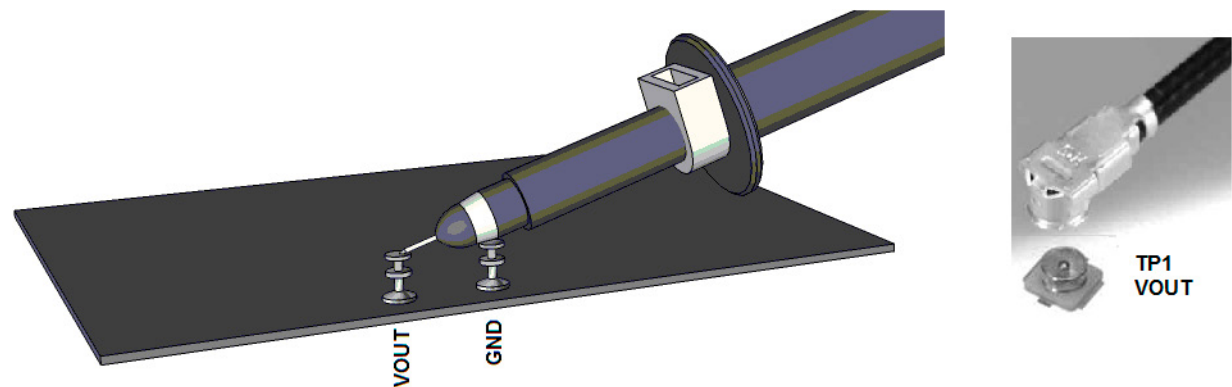

Figure 2. Technique for Measuring Output Ripple and Step Response
4. Connect an oscilloscope voltage probe as shown in Figure 2 in parallel with VM2. Set Channel to AC coupled, voltage scale to 20mV and time base to 10 $\mu$ s. Observe the  $V_{OUT}$  ripple voltage.
NOTE: Measure the output voltage ripple by touching the probe tip directly across the output turrets or to TP1 as shown in Figure 2. TP1 is designed for a 50 $\Omega$  coax cable to reduce any high frequency noise that might couple into the oscilloscope probes.